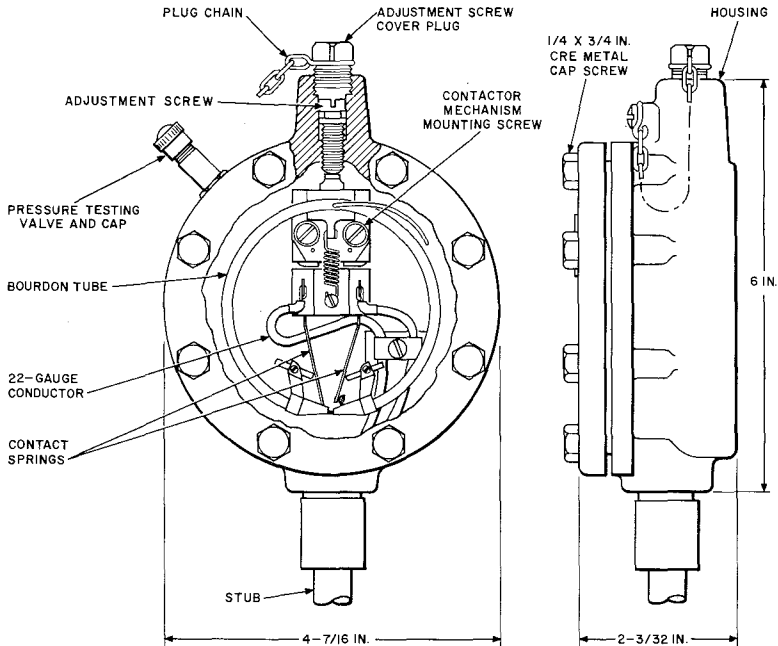

Fig. 5—G or J Pressure Contactor
2.07 The G pressure contactor (Fig. 5) is a temperature-compensated type. This contactor is otherwise identical in appearance, construction, and operation to the J pressure contactor and is factory set to operate at either 3 or 6 psi at 60°F, depending on the type of contactor stub used.
2.10 The J pressure contactor is a nontemperature-compensated type. The evacuated Bourdon tube and contact spring assembly are contained in a brass housing, as illustrated in Fig. 5. The contactor has a 15-foot stub containing two conductors for bridging to the alarm pair at the cable. The stub is available with either a plain lead sheath or a lead sheath with polyethylene jacket and mechanical protection. Contactors equipped with plain lead sheath stubs are factory set to nominal operating pressure of 3 psi at 60°F. Contactors with protected stubs are factory set to a nominal